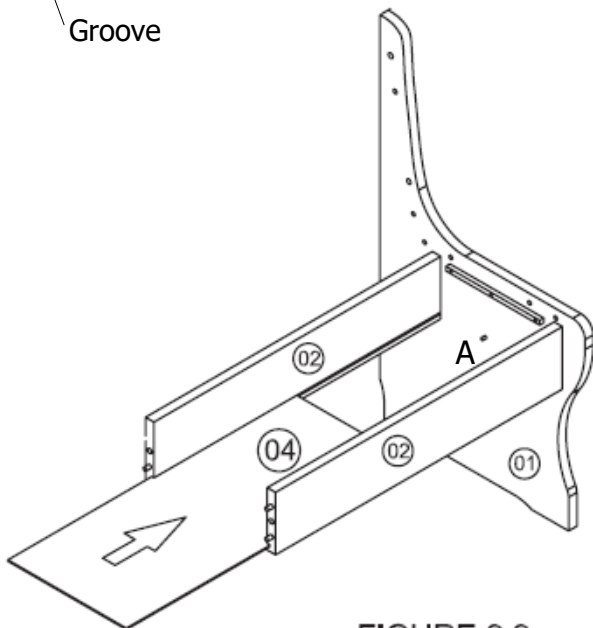

FIGURE 2.2
- Fit Storage Bottom (4) via groove on Front and Back Rail (2) as shown in Figure 2.2, and check that (4) sits on Wood Dowel (A) on (1)